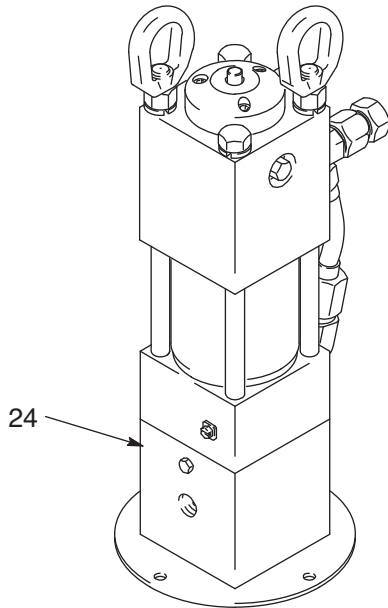

FIG. 3
Drain Line: Remove the plug (24) from the pump adapter, and install a 1/8 inch diameter weep tube, ending in a waste container. Monitor the weepage of hydraulic fluid. If it seems excessive or increases suddenly, the reciprocator or pump throat seals may need to be changed. (FIG. 3)